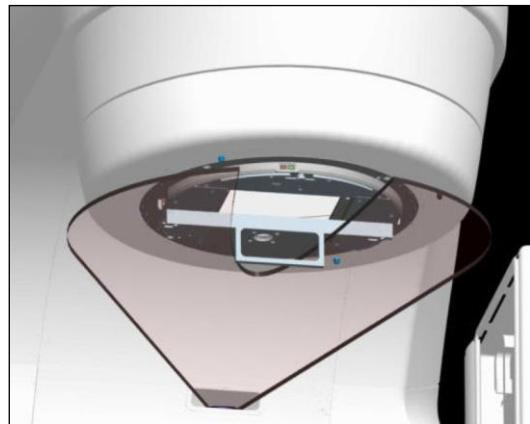

Figure 28: Protection Zone with T-Shaped Gauge Installed (Gantry 0°)
3. Install T-shaped gauge on Interface Mount (shown in Figure 28), and verify red LED is not illuminated on gantry LSG indicator and on the in room monitor LSG icon.